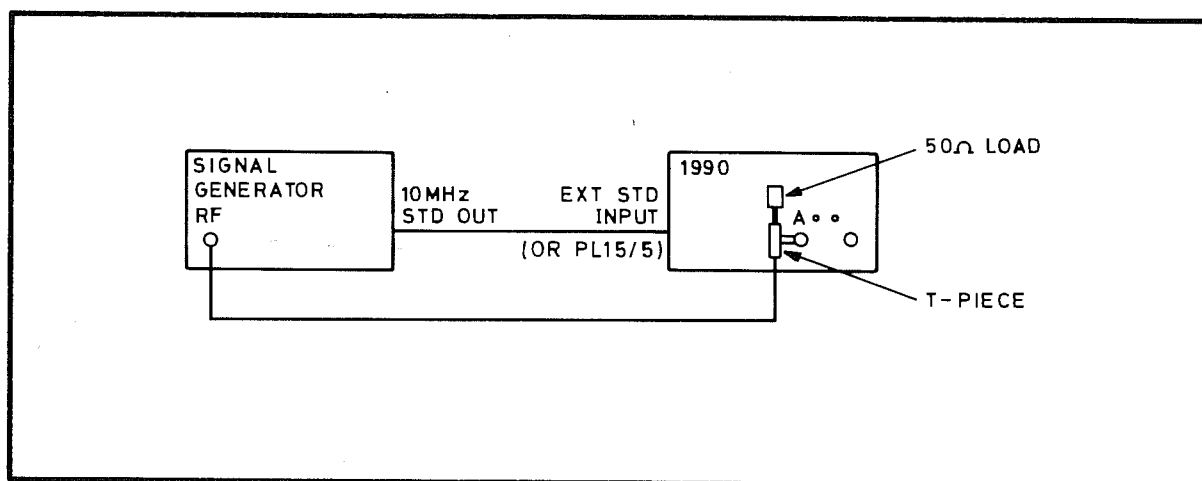

Fig 7.10 Connections for Channel A Input System Adjustment
- (1) Switch the 1990 on. Allow 10 min for the instrument to stabilise and ensure that the A trigger level control is switched to 0 V.
- (2) Press the RESOLUTION ↓ key three times, until 000 is displayed.
- (3) Connect the test equipment as shown in Fig 7.10. If the 1990 is not fitted with the frequency standard input/output option, use the X1 scope probe to connect the 10 MHz standard output of the signal generator to PL15/5.
- (4) Set the signal generator output to 10 MHz at a level of 2.0 mV r.m.s.
- (5) Verify that the EXT STD indicator is lit, and that the channel B TRIG indicator is not flashing.
- (6) Adjust R33 to obtain the most stable display indication of $10.00 E6 \pm 0.01 E6$, with the GATE indicator flashing.